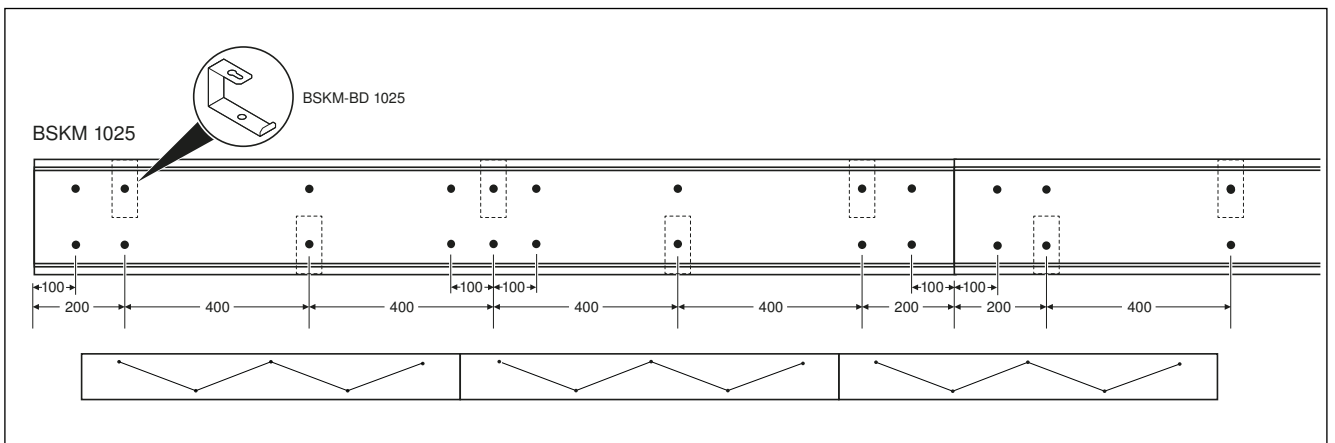
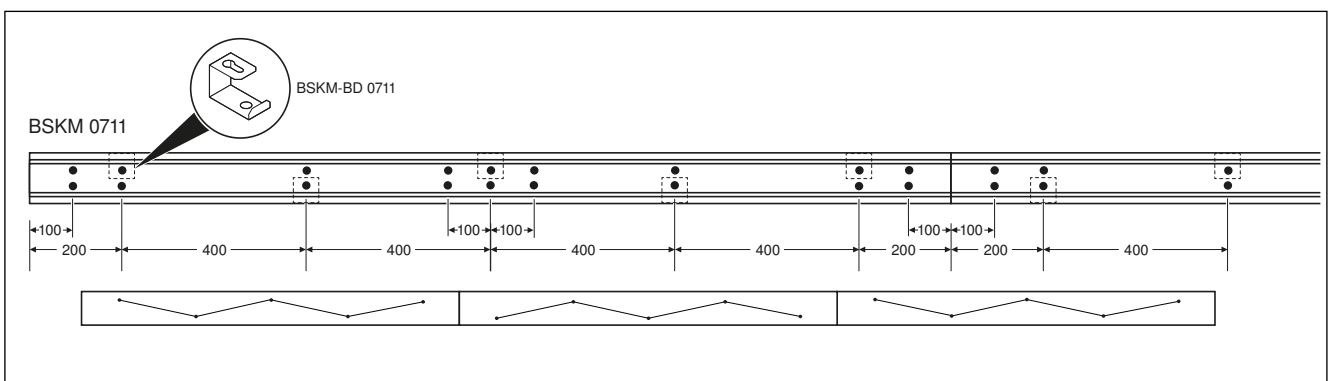

Fig. 18: Hole pattern for ceiling mounting, BSKM 1025
Fig. 19: Hole pattern for ceiling mounting, BSKM 0711
Note: *The coating must be pierced with a sharp object at the holes that are necessary for mounting. Ensure that the fastening points are arranged diagonally, as shown in Fig. 18 and Fig. 19 (does not apply to BSKM 0407).*
- Pierce the fire protection coating with a sharp object at the necessary perforations. Note the hole pattern as shown in Fig. 18, 19 or 20. Note that the holes must be positioned in an offset manner.